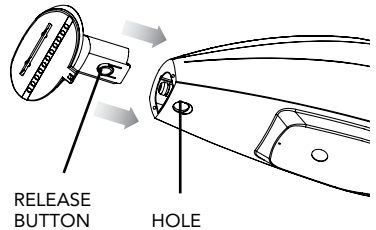

FIGURE 7
1. Align Fabric Nozzle with Steam Nozzle as shown (FIGURE 7).